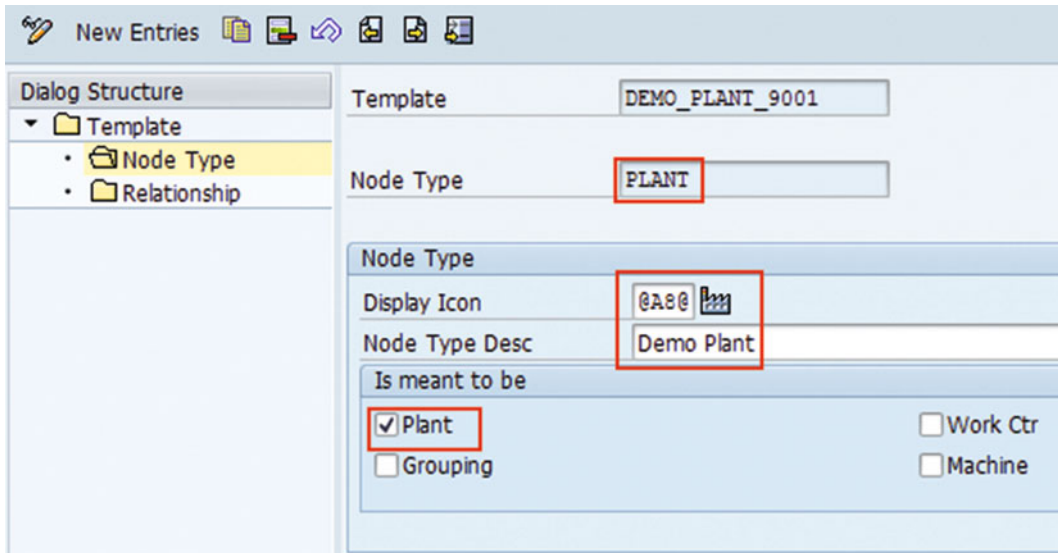

Figure 3-35. Configure plant hierarchy template: plant (root node)
To define the node type, select New Entries and enter any one of the following for each node type, as in Figure 3-35:
- Check “Plant” checkbox, as the node type is plant. Refer to Figure 3-35.